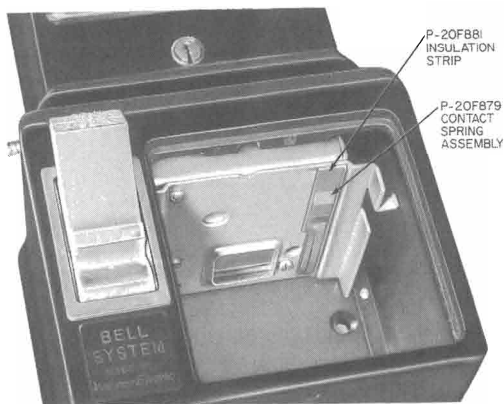
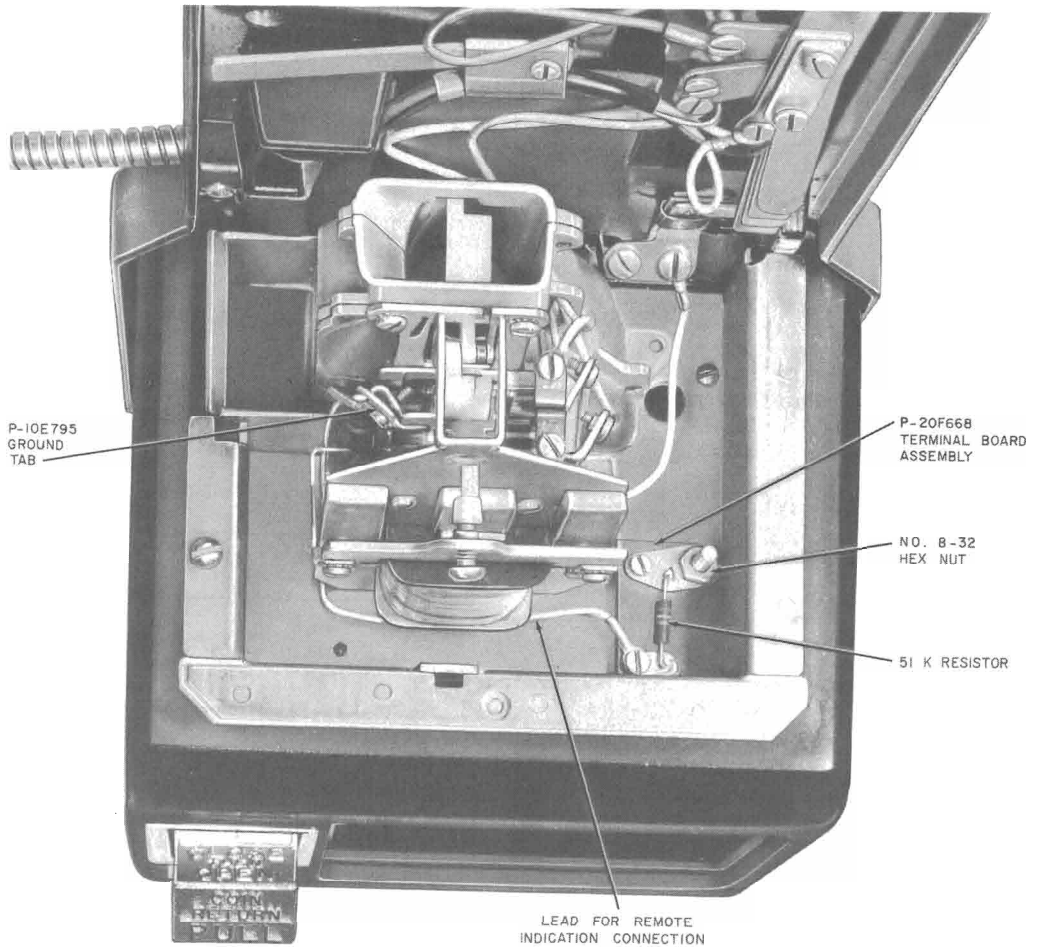

Fig. 7—Installation of Insulation Strip and Contact Spring Assembly
Fig. 8—Installation of Terminal Board Assembly
- (4) Using the 1/4-inch drill described in 3.01, drill the hole through the housing.
- (5) Remove the screw and drilling template.
- (6) Using the 1/4-inch drill, enlarge the hole where the screw was removed.
- (7) Using a suitable file, remove all burrs from the 1B rail.
- (8) Remove the C-clamp.
- (9) Remove all drill chips from the telephone set.
- (10) Position the insulation strip against the 1B rail with the boss on the strip in the 1/4-inch mounting screw hole (Fig. 7). Hold the contact springs in place with the stud extending through the hole drilled in the base, and fasten the terminal board in place on the housing base with the nut provided (Fig. 8).
- (11) Reinstall totalizer and coin chassis in 1A/1C coin telephone sets [See 3.05(7)].
- (b) Thread (BK) and (Y) leads of chassis through hole on coin hopper. Connect (BK) lead to terminal 3 and (Y) lead to terminal G of coin relay.
- (8) Position the insulation strip against the 1B rail with the boss on the strip in the 1/4-inch mounting screw hole (Fig. 7). Hold the contact springs in place with the stud extending through the hole drilled in the base, and fasten the terminal board in place on the housing base with the nut provided (Fig. 8).
4.02 The lead provided with the D-180042 kit is equipped with a screw clamp to facilitate fastening to the ground tab (P-10E795) on the coin relay (Fig. 8). Care must be taken not to alter the adjustment of the coin relay by bending the spring member. Connect the spade tip of the lead to the front terminal on the terminal board.